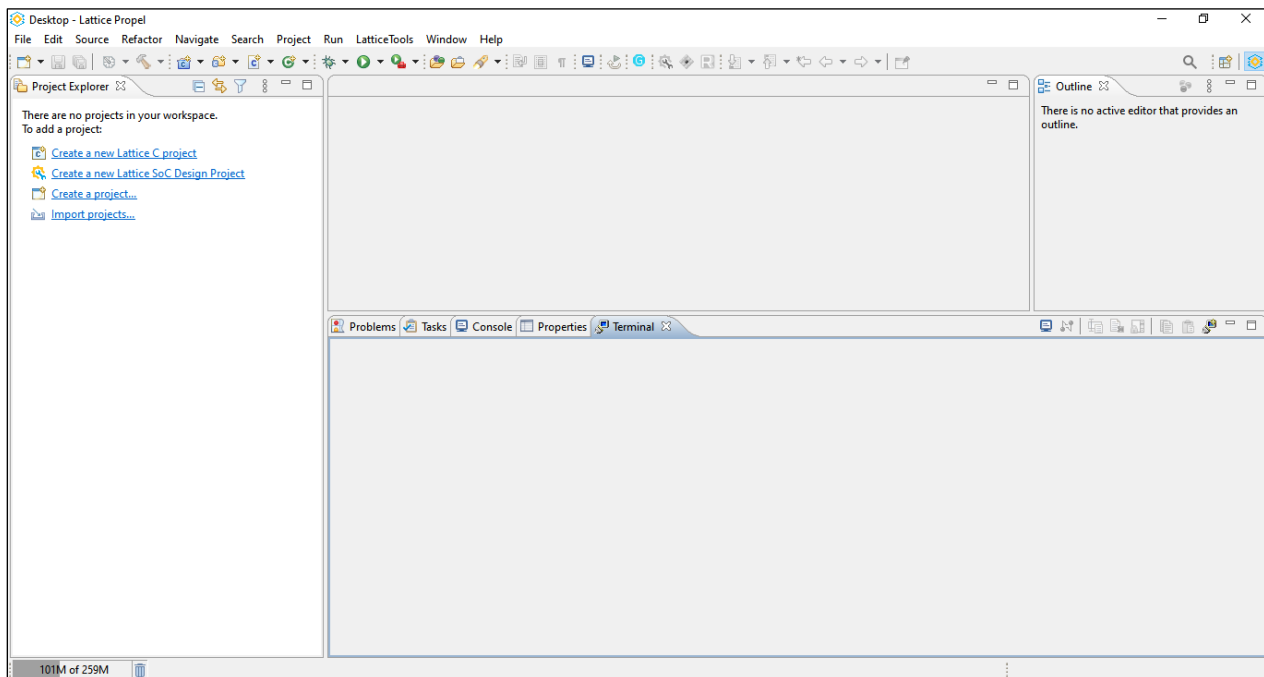

Figure 5.1. Lattice Propel SDK Default Window
4. Select the **Terminal** option available as shown in Figure 5.1.